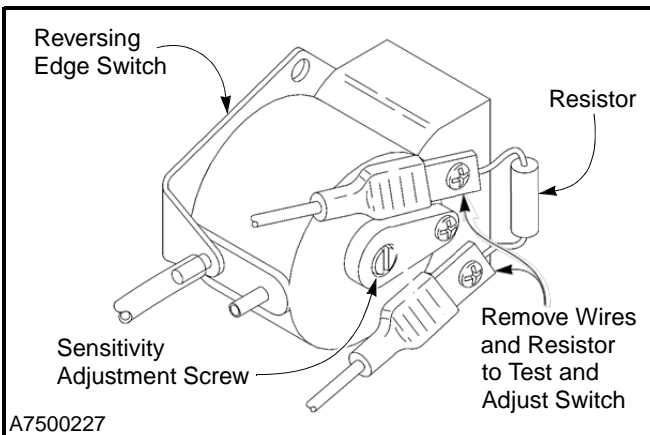

Figure 35
1. The reversing edge switch is a normally open contact. The PVC hose is on the lower air input post. To adjust the switch, first remove the resistor from the contact terminals and attach an ohmmeter across the two terminals. (See Figure 35)
2. Turn the sensitivity adjustment screw clockwise until continuity is achieved. Then turn the sensitivity screw two full turns counterclockwise for a standard setting. Some doors may require a further adjustment counterclockwise. (See Figure 35)